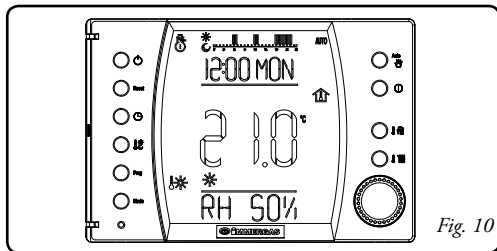

Fig. 10
- **Working in the winter mode.** By pressing the  push button again you go to the winter mode () the CAR enables the production of domestic hot water as well as central heating (see fig. 10). In the winter Super CAR can work automatically or manually - see Chapter 6 for the description. The current day and time, room temperature, the weather forecast and the percentage of humidity are shown on the display.